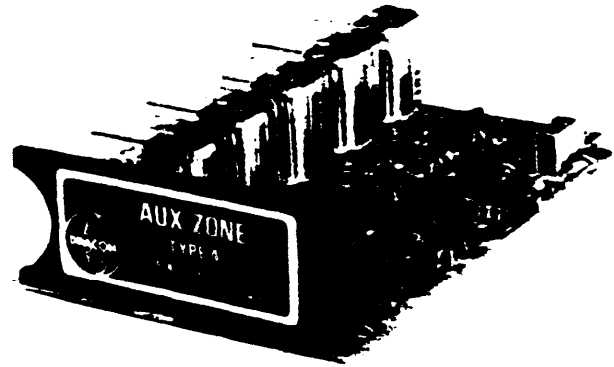

Fig. 15—Type 4 Auxiliary Zone Card
3.45 The Type 4 Auxiliary Zone Card (Fig. 15) provides two *page-only* and two standard zones. The page-only zones can be accessed in the normal manner and can provide talk-back but will be excluded from all system-provided background music.